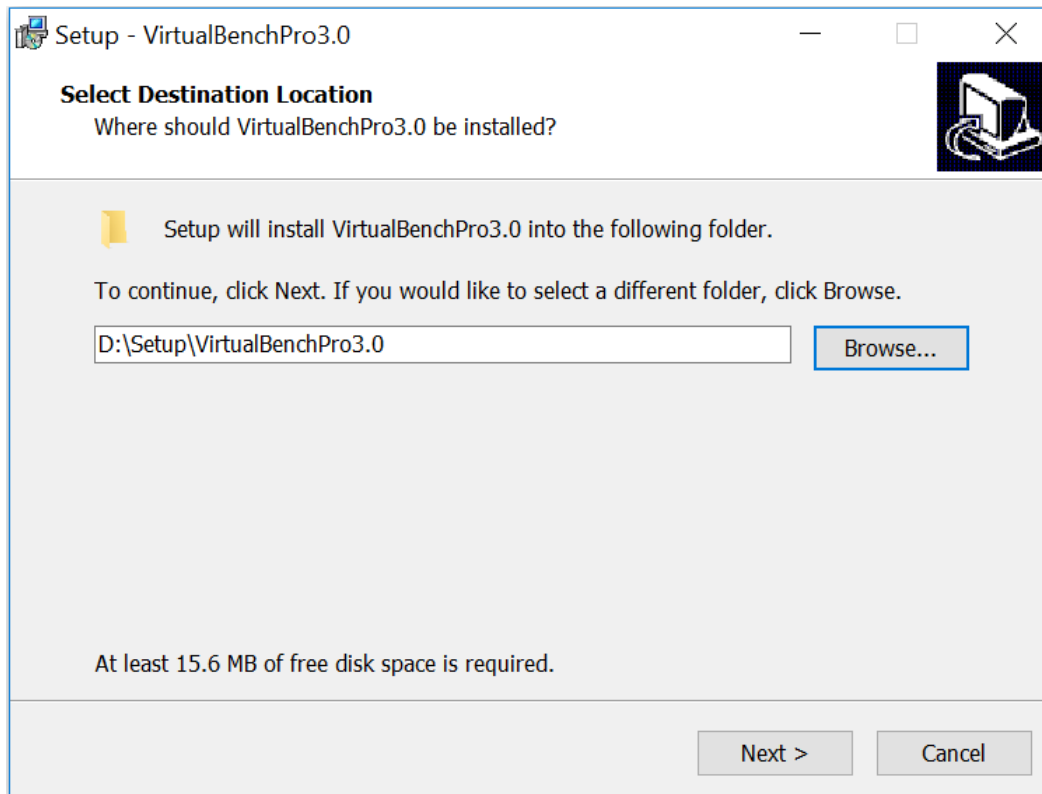

Figure 4: eMotion System™ Virtual Bench Pro GUI Set-Up Guide
2. Extract the zip package and double-click the .exe file to open the set-up guide (see Figure 4). If a protection window comes up, click “More info,” then click “Run anyway.”